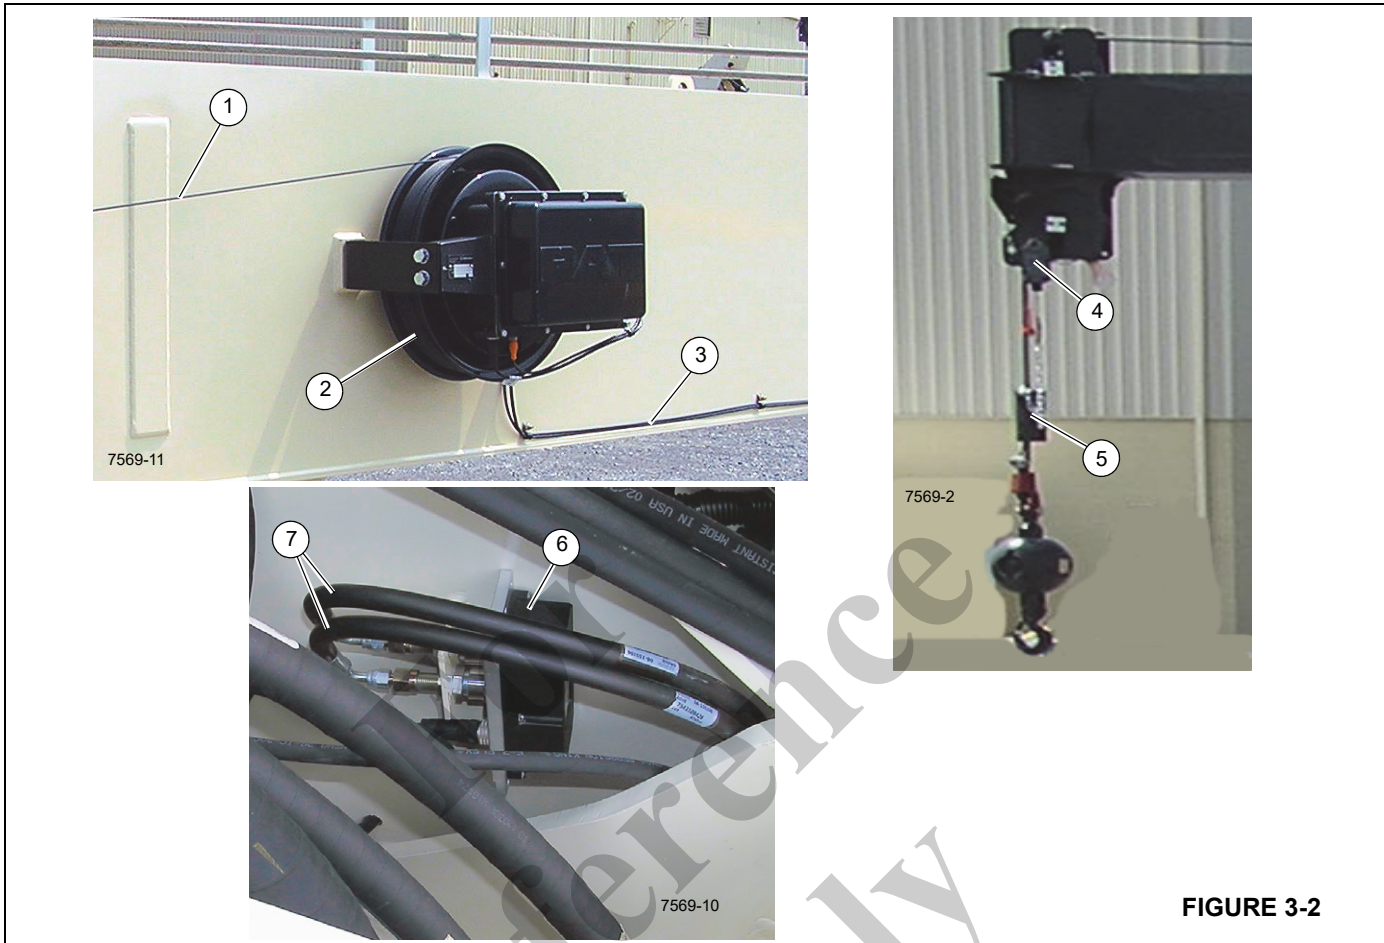

FIGURE 3-2
The boom ATB/RCL cable (1, Figure 3-2) runs from the ATB reel (2) through the boom and to the ATB switch assembly (4). The ATB switch assembly cable is attached to the anti-two block weight (5).
The the RCL cable (3, Figure 3-2) runs from the bottom of the reel (2) to the end of the boom, then splits, with one end running down through the turret to the boom lift cylinder pressure transducer (6) and the other end to the cab operator’s console.